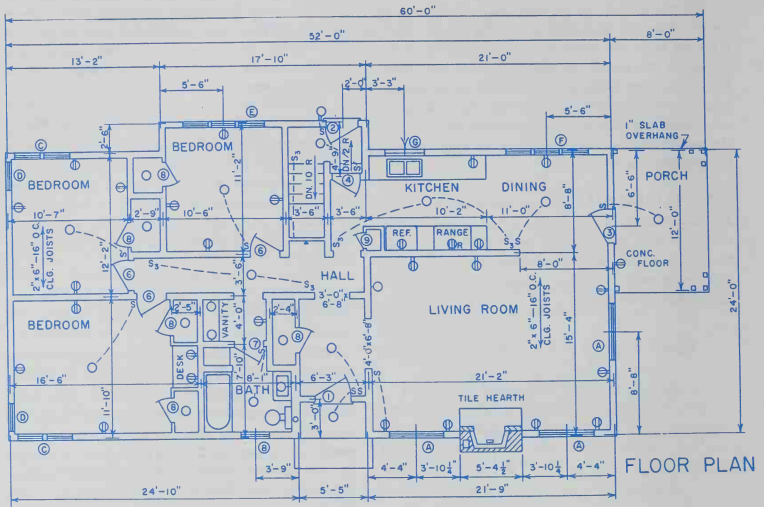

Fig. 12-3. Floor plan of a house.
The architect makes use of several types of drawings in preparing the plans for the design and construction of a house. One of the first drawings to be made is the FLOOR PLAN (arrangement of rooms), Fig. 12-3. The floor plan contains most of the dimensions necessary in the construction of a house. It contains overall size; location of walls, windows, doors, stairs and electrical and plumbing details.
Refer to Fig. 12-3 and answer the following questions:
3. Dimension the drawing in the manner shown in Fig. 12-3.